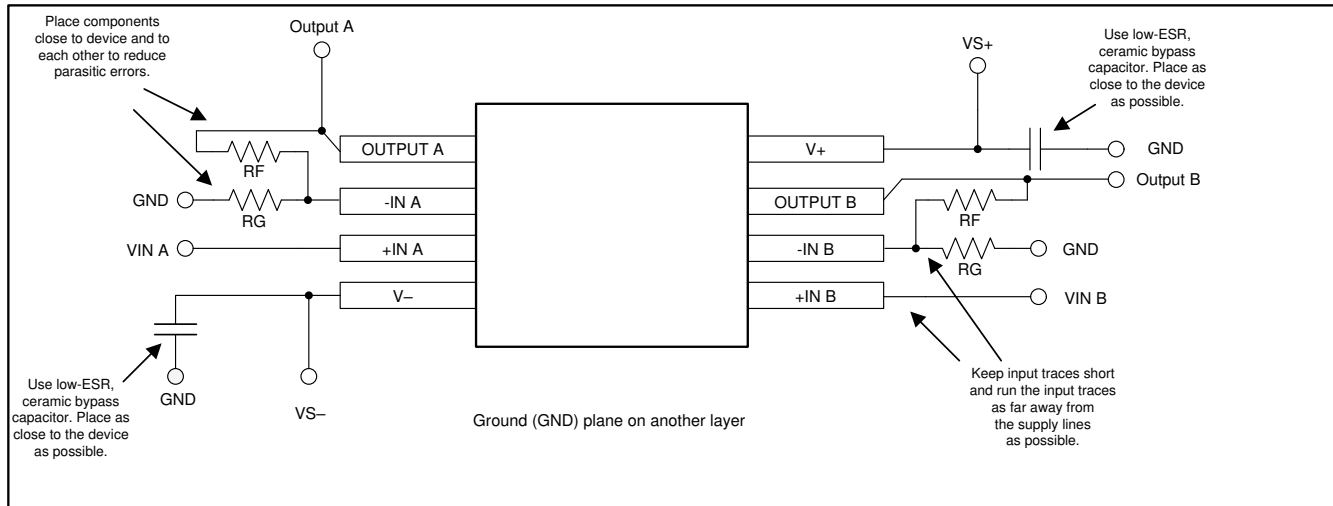

Figure 8-8. Operational Amplifier Board Layout for Noninverting Configuration
- Place the external components as close to the device as possible. As shown in Figure 8-8, keeping R_F and R_G close to the inverting input minimizes parasitic capacitance.